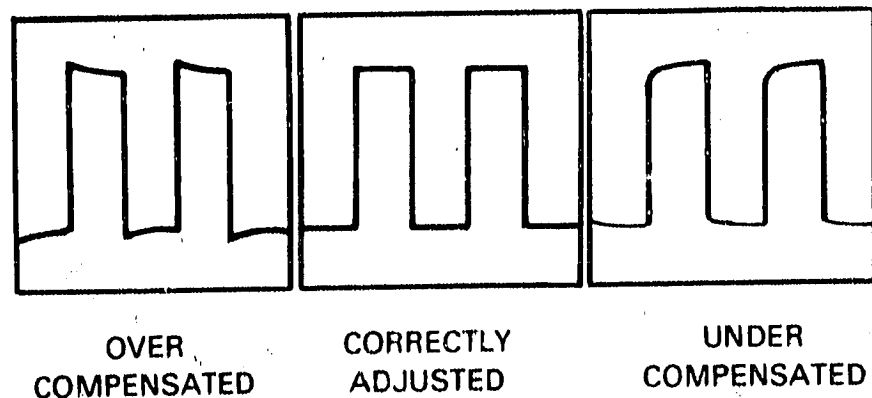

Figure 3-2. Divider Probe Adjustment Display
- g. Adjust divider probe compensation for correct display (see figure 3-2).